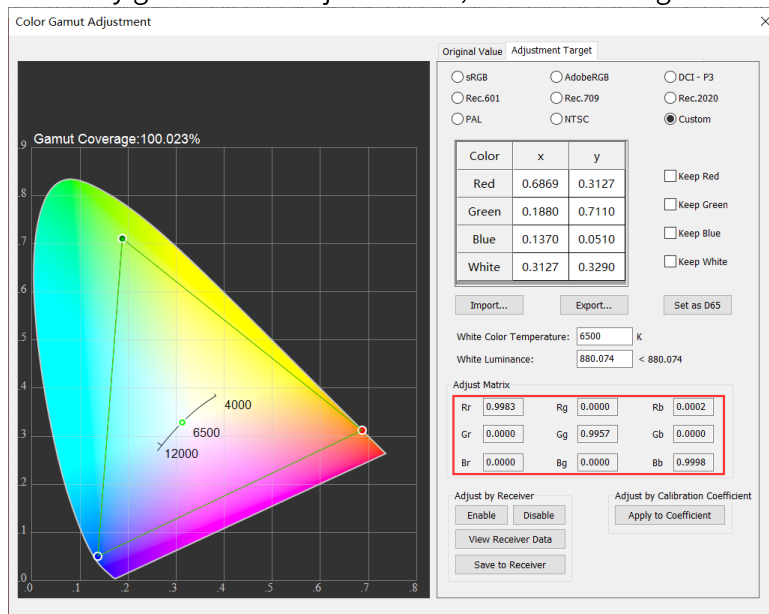

Fig 8.3.3 Generate adjust matrix
- Step 3: Click **Approx Value** and select the checkboxes for **Keep Red**, **Keep Green**, **Keep Blue**, **Keep White**, or **Set as D65** based on your actual requirements. This will automatically generate an adjust matrix, as shown in Figure 8.3.3.